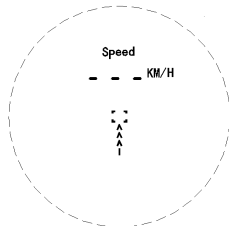
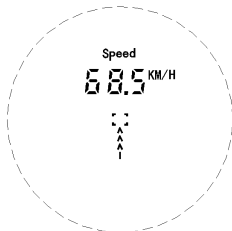

Fig. 9.1
Fig. 9.2
2. Press down the OPEN button. The lens will display the last mode selected when the Laser Range Finder shutdown. Keep pressing the MODE button till you reach the Speed Mode (see Fig. 9.1). Press down the OPEN button and the crosshairs will start flashing. Gradually move the Laser Range Finder towards the moving object whose speed you want to measure. Once the crosshairs lock on the object, they will stop flashing and the speed will be displayed (see Fig. 9.2).